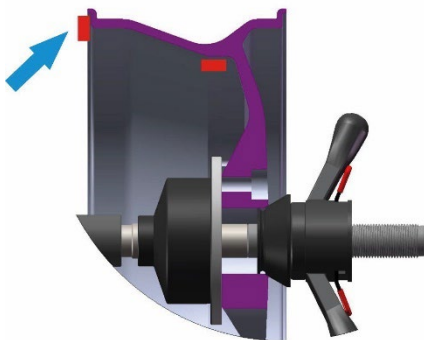

fig. 3.1
3. Rotate the wheel by hand. As soon as all LEDs of the inside position indicator light up, the weight can be attached to the inside Fig.3 or in Alu-1 mode Fig. 3.1.